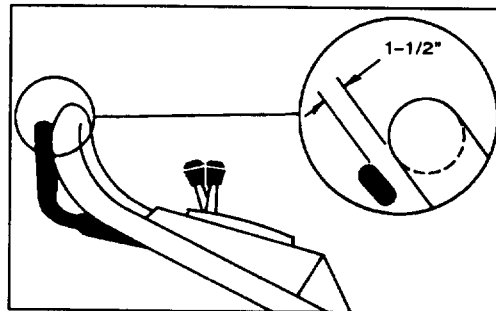

Figure 13
2. Lift control bar until some resistance is felt. Control bar should be 1 1/2" from handle when properly adjusted (Fig. 13).